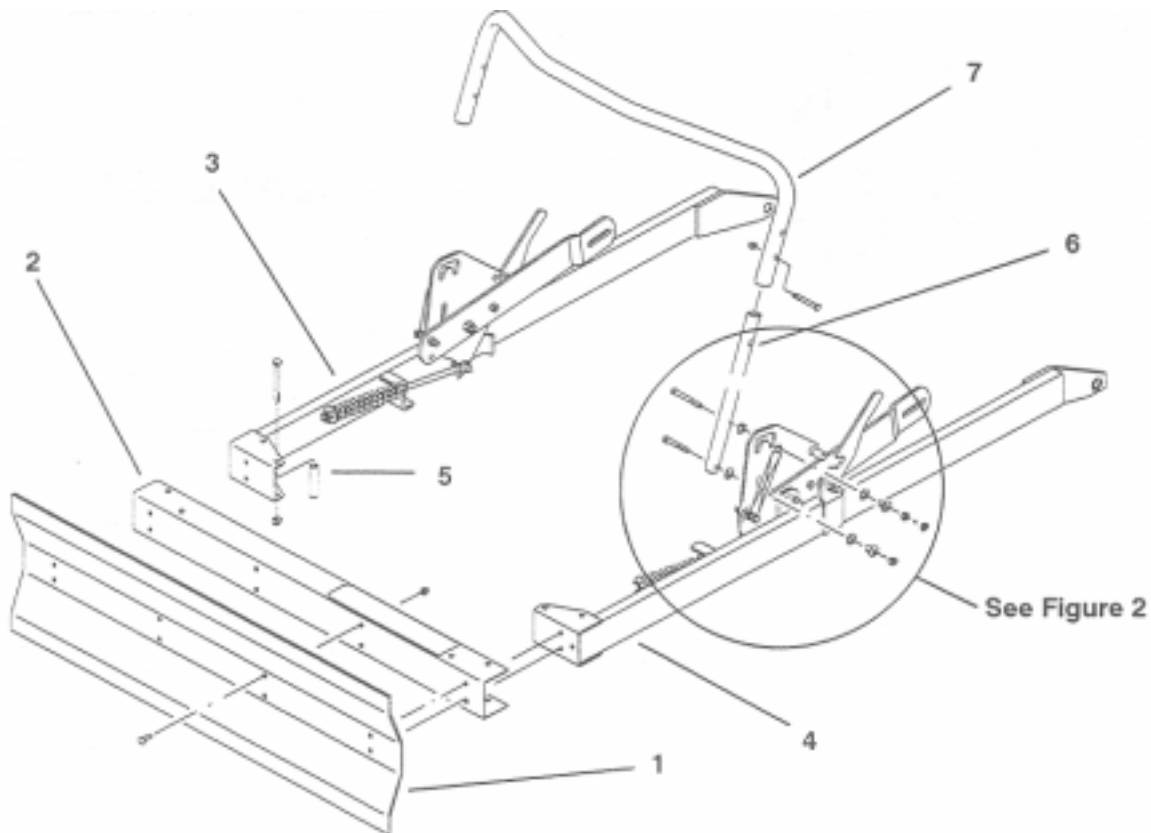

Figure 1
1. Using the center holes, assemble the blade to the channel with 4 carriage bolts (5/16 x 1 inch) and 4 locknuts (5/16 inch). Refer to Figure 1.
7. Secure the upper handle in place with 2 cap screws (5/16 x 1-3/4 inch) and 2 locknuts (5/16 inch). Refer to Figs. 1 and 2.